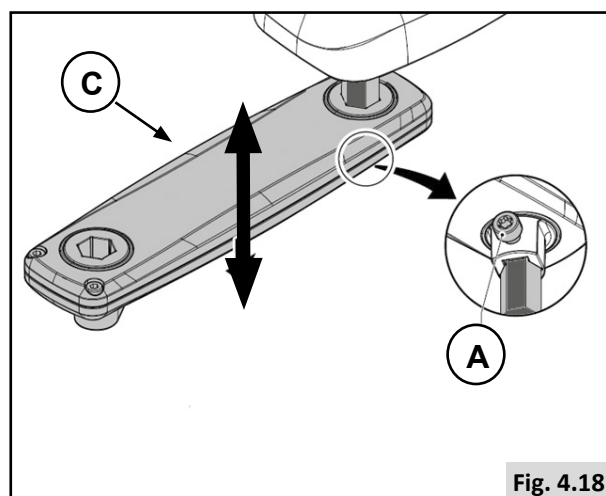

Fig. 4.18
### Pre-setting height of the controller (1), (Fig. 4.18).
1. Loosen (A).
2. Slide (C) into desired position.
3. Tighten (A).